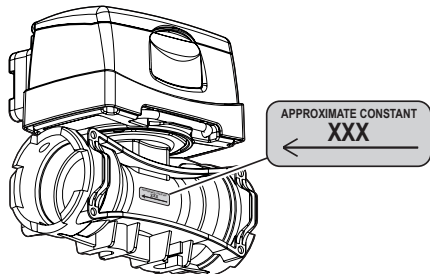

Fig. 21
C) Press to save changes or **D)** Press to exit current page without confirming changes. Refer to the label on the body (Fig. 21).